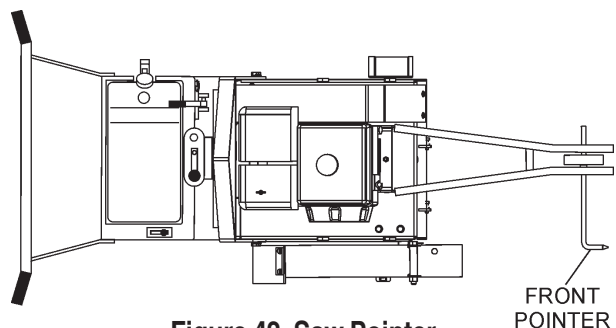

Figure 42. Saw Pointer
- The SP2 saw employs a front pointer (Figure 42) that has been precisely aligned with the diamond blade at the factory. Referencing the figure below, accurate tracking is accomplished by referencing the front pointer tip over the cut line. Precise saw direction is accomplished by slight operator pressure against the handle bars.